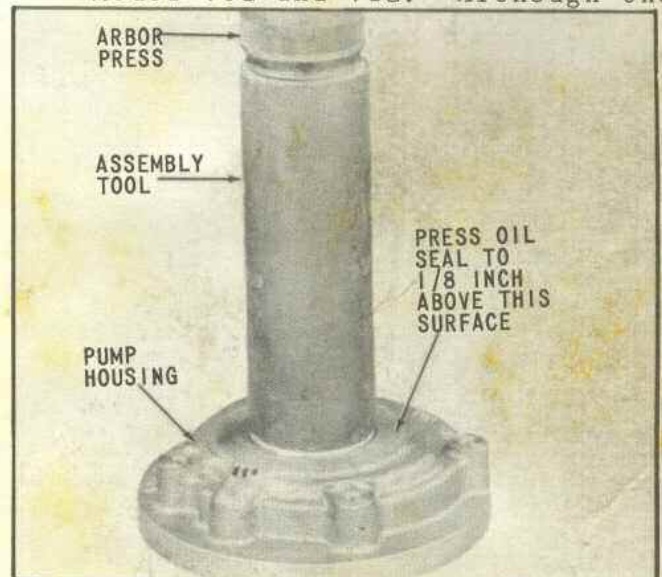

Fig. 105 Pressing Oil Seal
2. The pump assembly for the Model 70B and 71B transmissions (71-A60) contains a different seal than the pump assembly with backing plate for the Model 70C and 71C (71-1A60). They are identical in all other respects. Therefore, when assembling the front pump assembly 71-A60 follow the information in (paragraphs 5-15) pages 48 to 51, with the exception that the seal should be pressed into the pump housing until front face of seal is 1/8 inch above front face of pump housing, (Fig. 105).